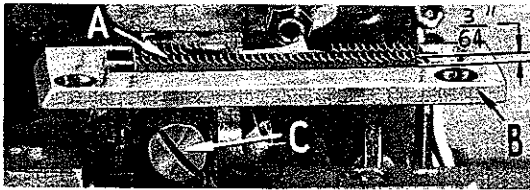
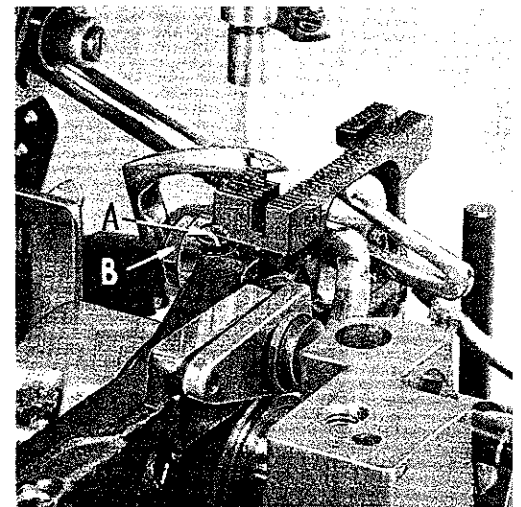
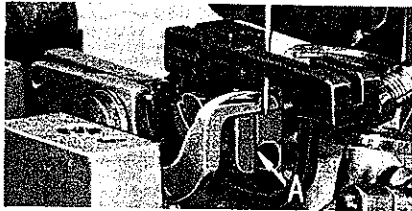

Fig. 7
Fig. 8
Fig. 9
Set the feed dog (A, Fig. 7) in the throat plate (B) so there is equal clearance on all sides and that the tips of the teeth are parallel with and project  $3/64$  inch above the throat plate at high point of travel. Adjust the supporting screw (A, Fig. 8) under the feed dog to maintain this setting. Screw (C, Fig. 7) is used to
If feed dog teeth are not parallel with the throat plate, loosen nut (B, Fig. 8) and turn screw (A, Fig. 9) clockwise to lower the front teeth, and counterclockwise to raise the front teeth. Retighten nut when feed dog is set properly.